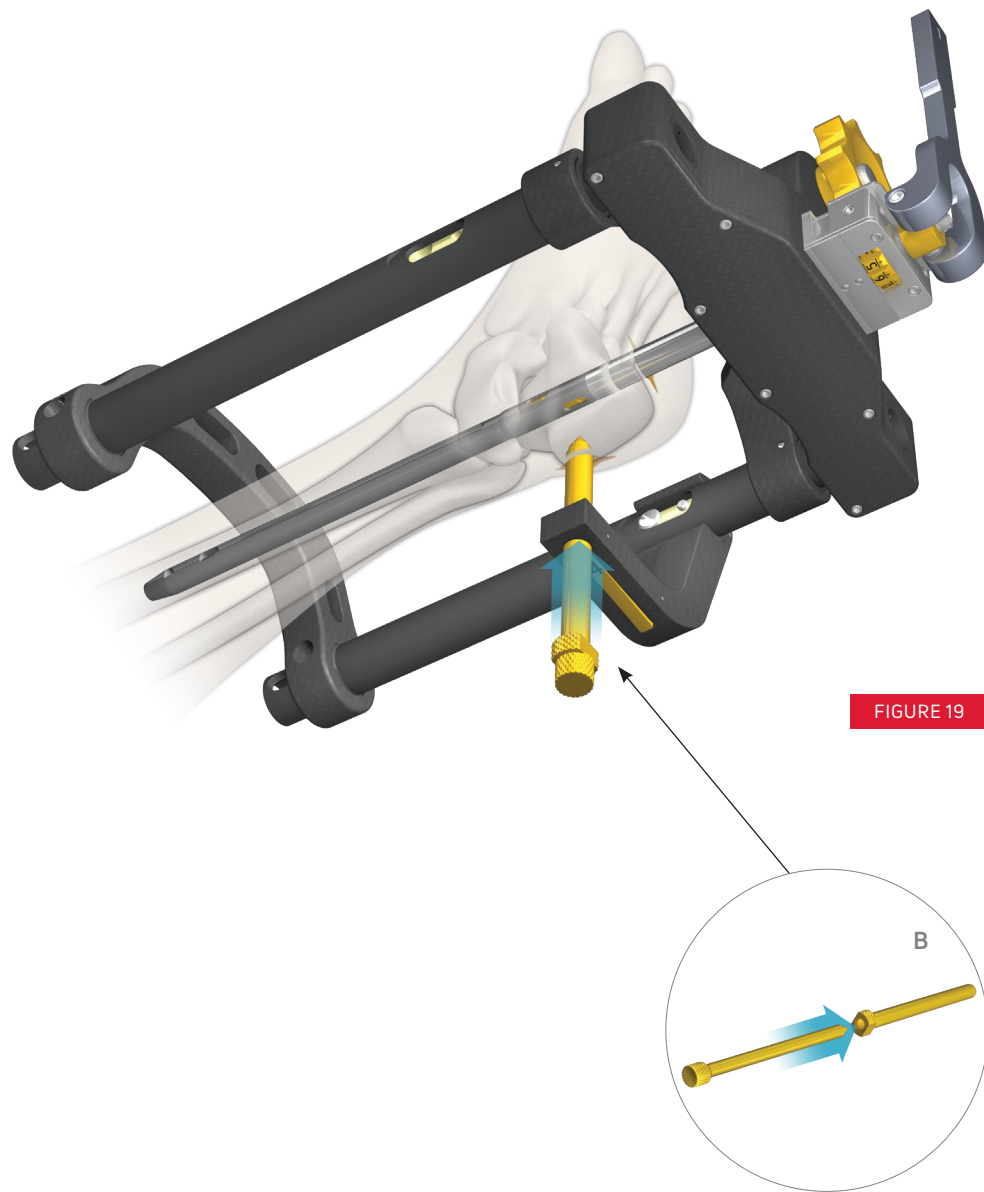

FIGURE 19
Thread the Trocar Obturator into the 8 mm Guide Sleeve (B). Depress the gold trigger on the PA Attachment to insert the Guide Sleeve/Trocar assembly. Make an incision at the Trocar tip and confirm that the Trocar is resting directly against the calcaneus (FIGURE 19).